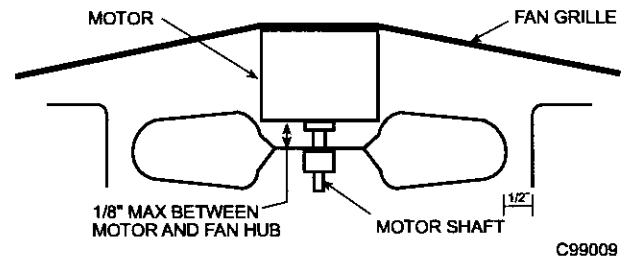

Fig. 21—Fan Blade Clearance
- a. Make sure that outdoor-fan blade is correctly positioned in fan orifice (See Fig. 21).